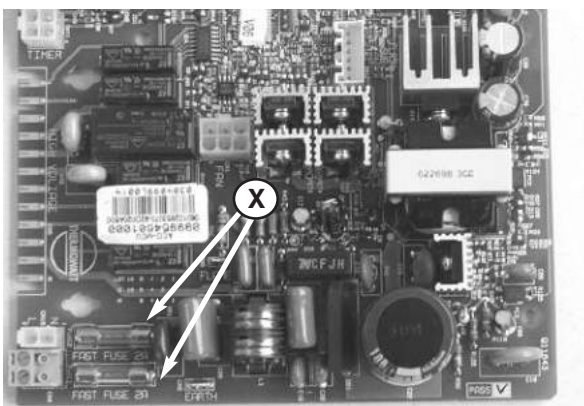

Fig. 105
2. Remove the fuses "X" (see Fig. 105)